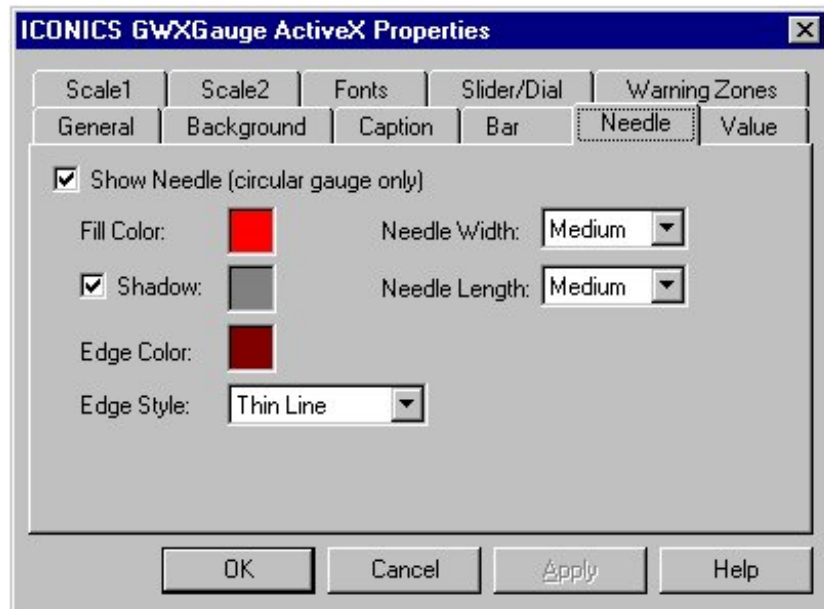

Figure 15-8: GWXGauge ActiveX Properties Dialog Box: Needle Tab
2. Select the Needle tab (Figure 15-8).